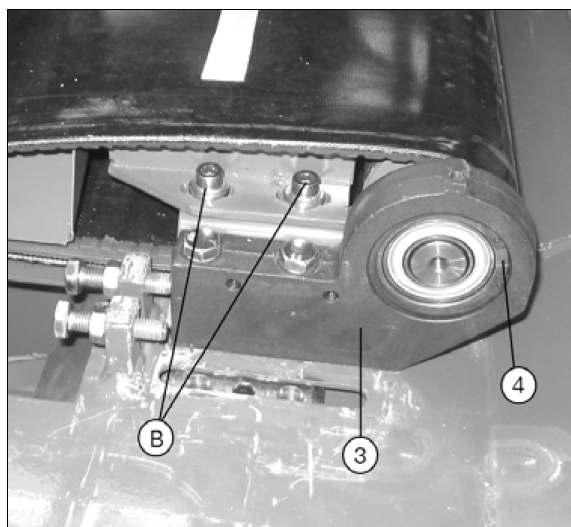

Fig. 14.
21. Fill approx. 250 g lithium grease into the angular head (fig. 14).
25. The nut pos. 15 must be tightened to 147 Nm (fig. 14).